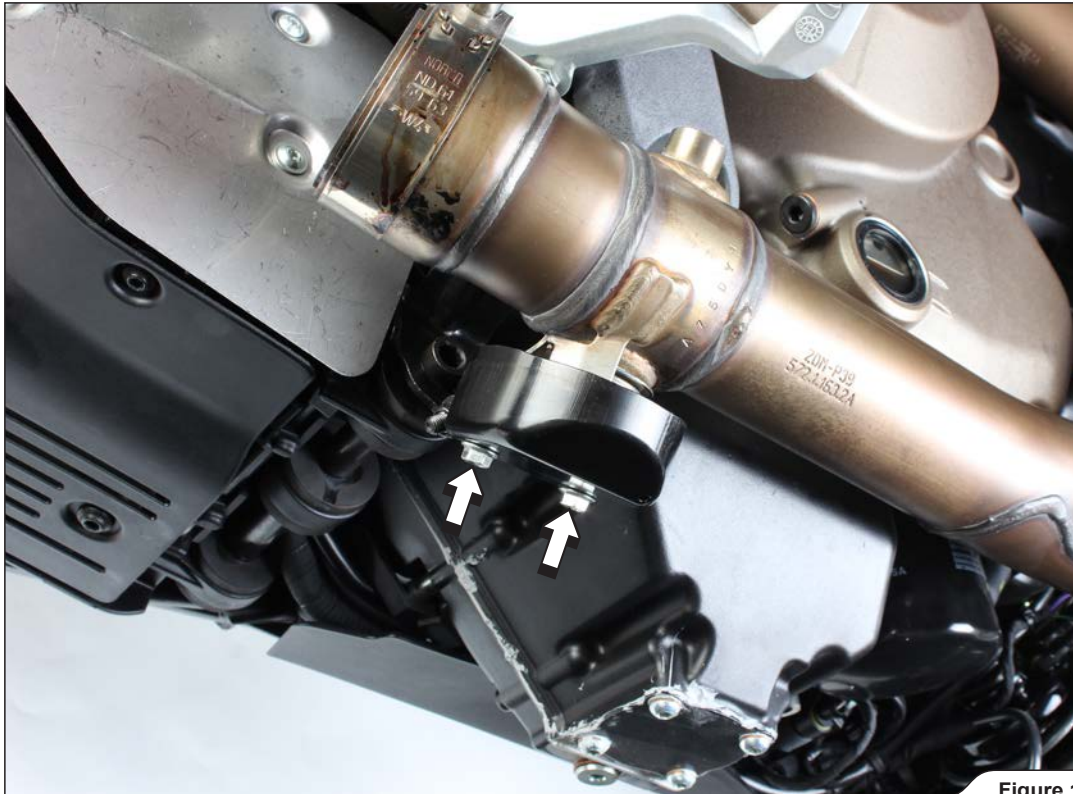

Figure 1
3. Unscrew the marked bolts and remove the exhaust valve's protection cover (**Figure 1**).